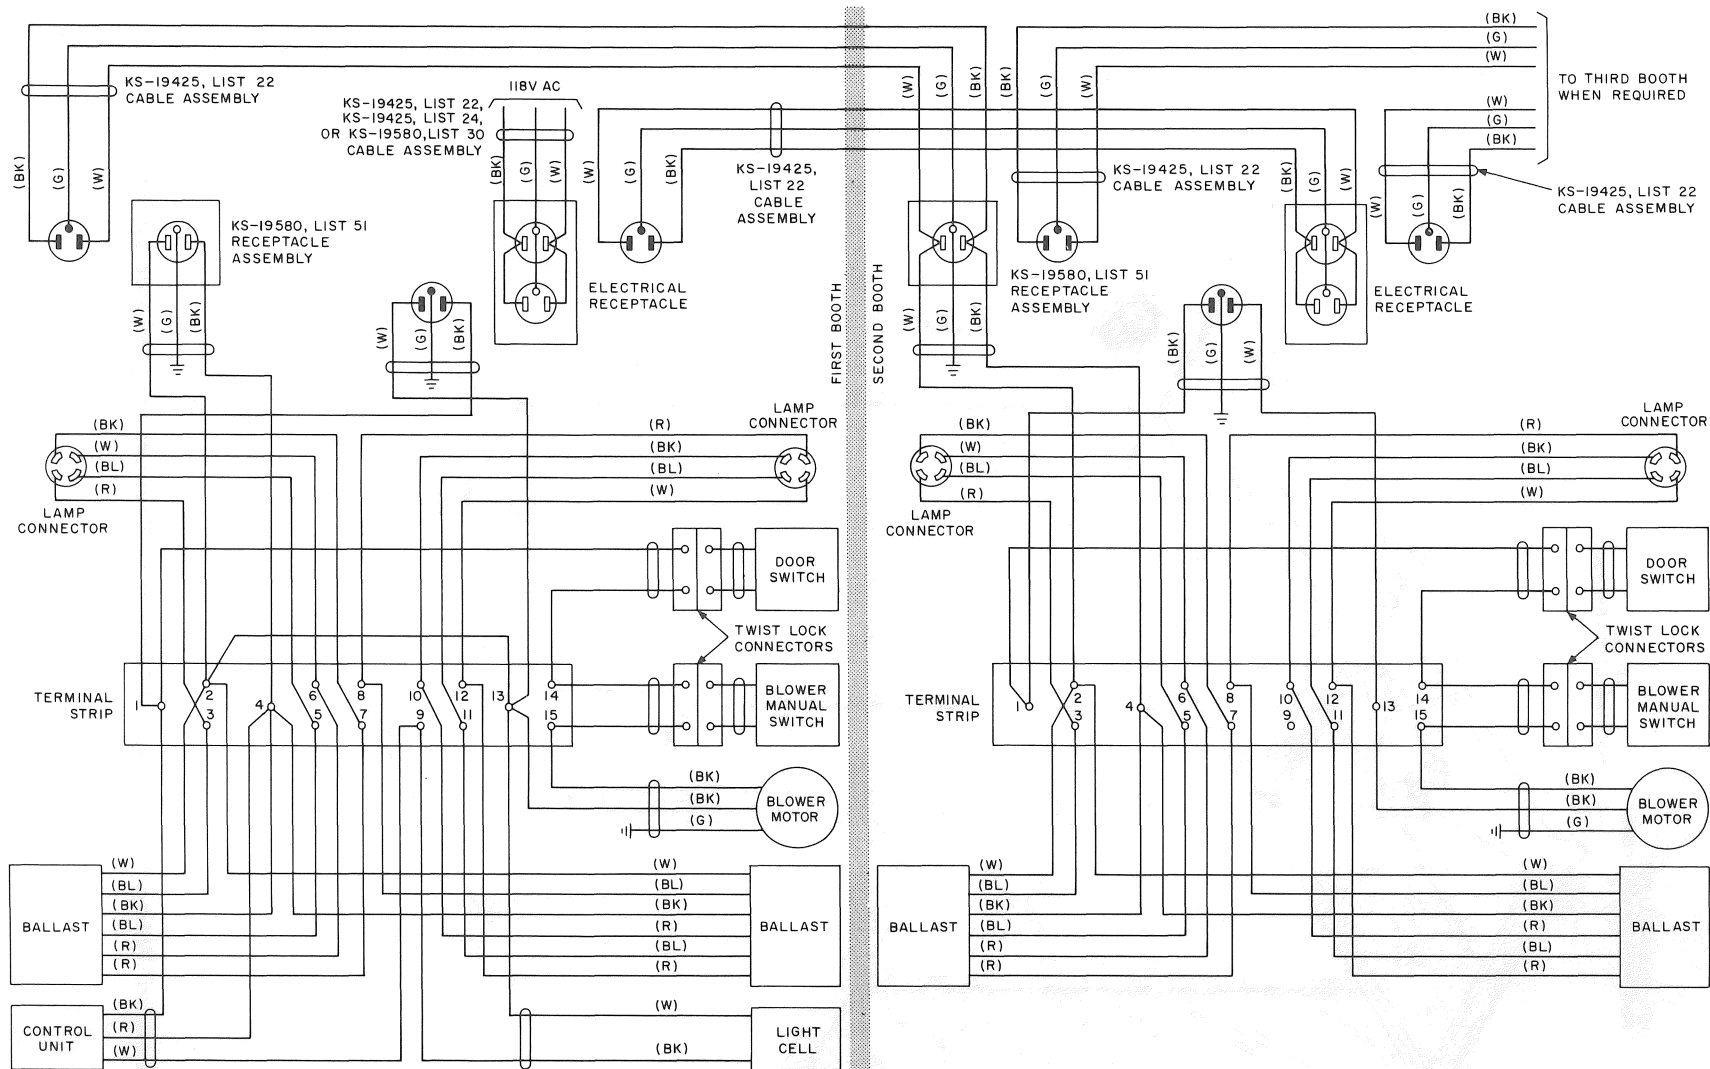

Fig. 25—Wiring Diagram of KS-19261 Light Control Unit Used in Multiple Installation With Blowers
4.08 One KS-19580, List 51 receptacle assembly (Fig. 25), must be used in each booth in conjunction with a KS-19261, List 1 light control unit in multiple installations where KS-19207 light and blower units are used.
4.10 Connect the KS-19580, List 51 receptacle assemblies to the terminal strips as shown in Fig. 25.
4.11 Connect the List 51 receptacle assembly of the second, third, fourth, and fifth booth to the List 51 receptacle assembly of the previous booth in accordance with Fig. 25.
4.12 Connect the electrical receptacle of the second, third, fourth, and fifth booth to the electrical receptacle of the previous booth in accordance with Fig. 25.